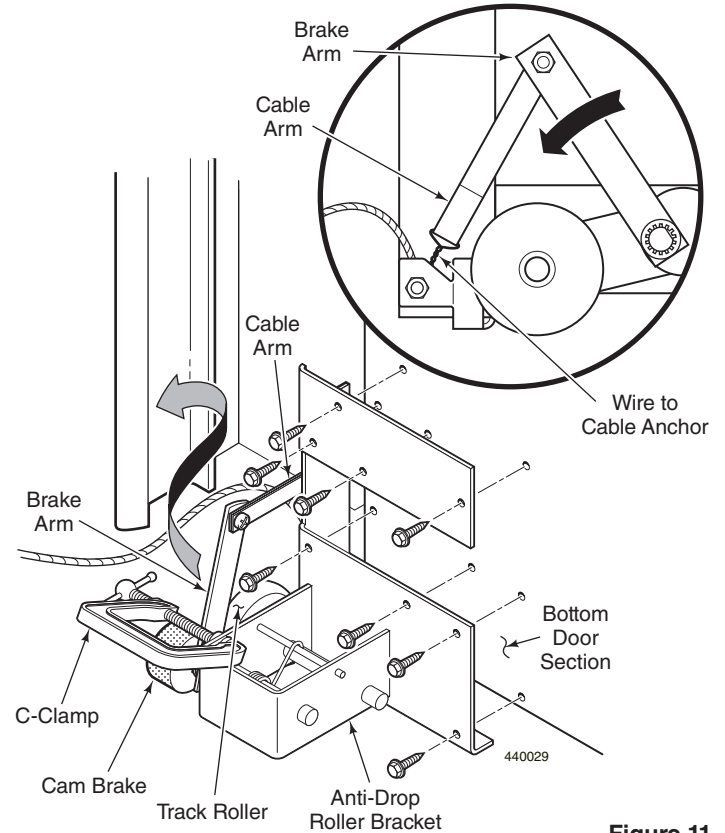

Figure 11
1. Remove the Anti-Drop Roller Brackets from the Bottom Door Section. On one of the Brackets rotate the Brake Arm up to move the Cam Brake away from the Track Roller. Block the Brake Arm in this open position with a C-Clamp or wire the Cable Arm to the Cable anchor. Tip the Roller and Bracket into the Vertical Track, then position it on the ground at the bottom of the Track. Repeat the procedure for the other Anti-Drop Roller Bracket. See Figure 11.